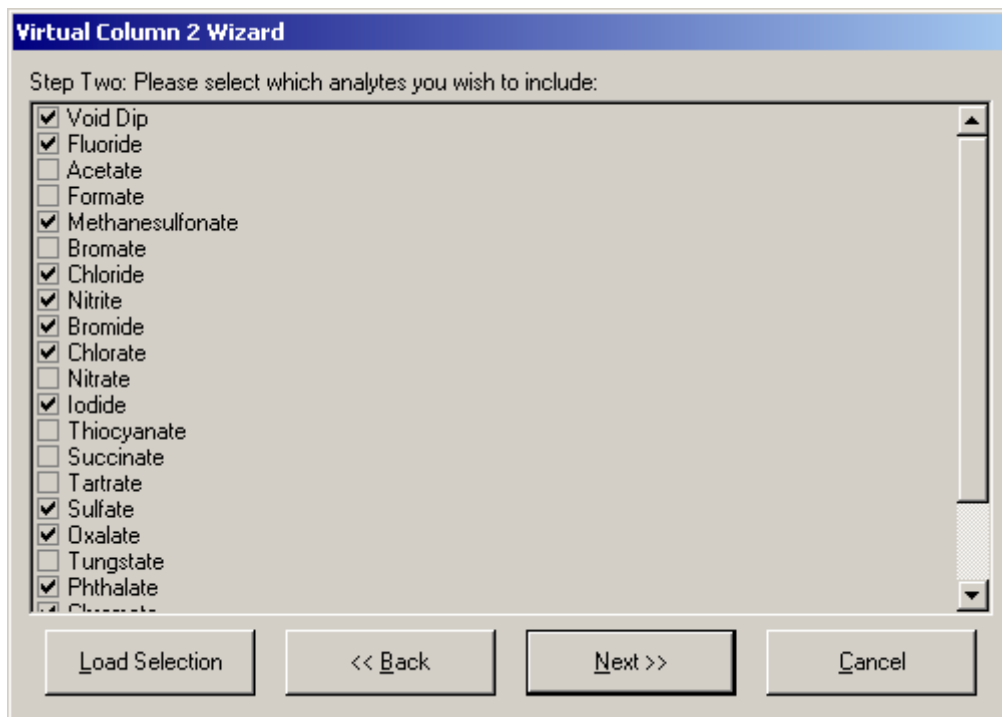

Figure 19. Virtual Column 2 Wizard Step Two.
- Tick the following check boxes to select a series of analytes – Void Dip, Fluoride, Methanesulfonate, Chloride, Nitrite, Bromide, Chlorate, Iodide, Sulfate, Oxalate, Phthalate, Chromate, Thiosulfate and Phosphate (Figure 19).